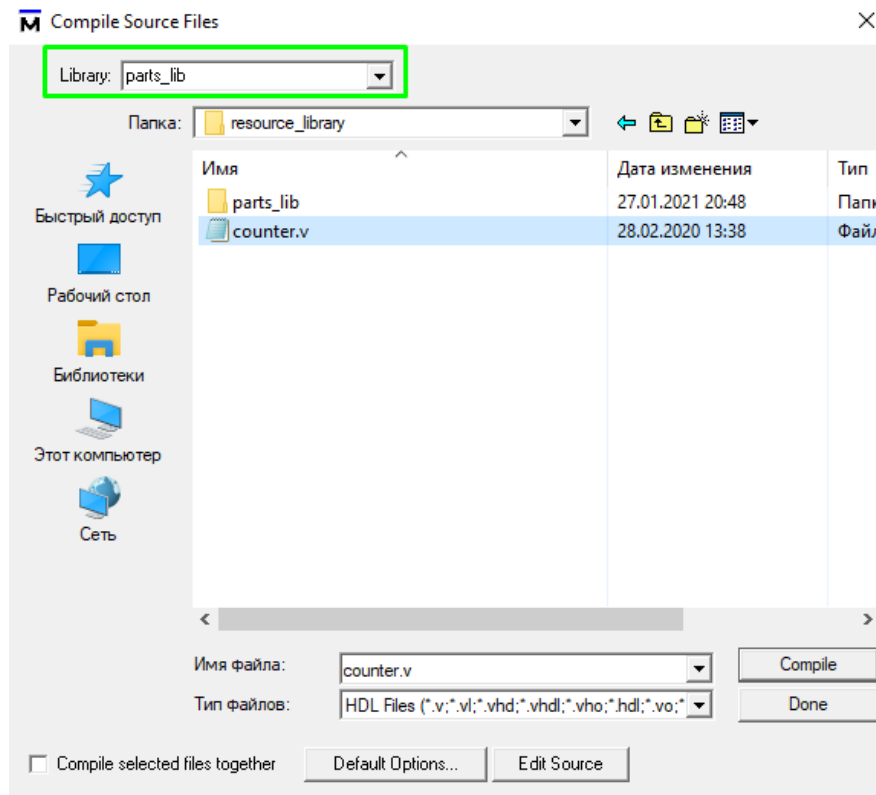

Figure 56
- b. Select the *parts_lib* library from the Library list Figure 56).